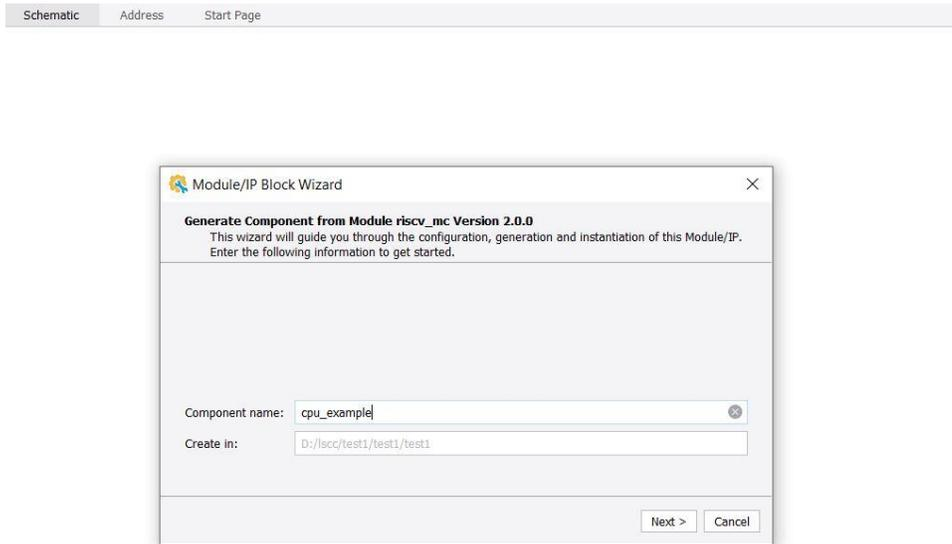

Figure 3.1. Entering Component Name
2. Enter the component name as shown in Figure 3.1. Click **Next**.